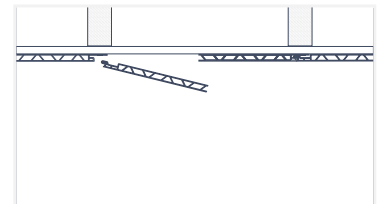

Fig. 31
3. The side of the panel with the tongue should slide easily out of the adjacent panel (Fig. 31).